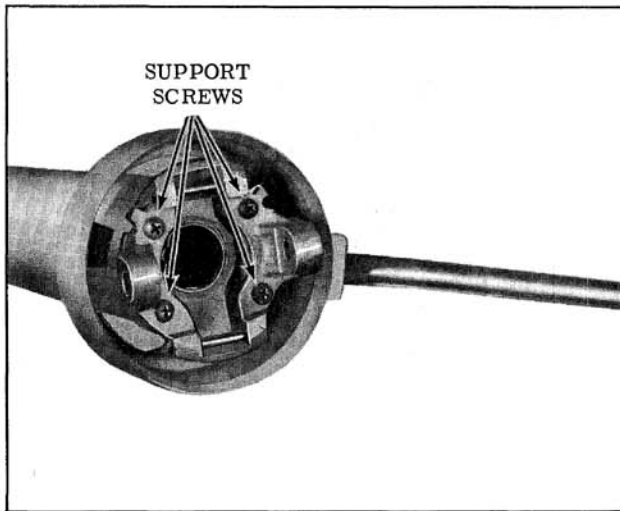

Fig. 8-105 Support Screw Location
1. Remove the four support screws, then lift the support from the mast jacket. (Fig. 8-105)